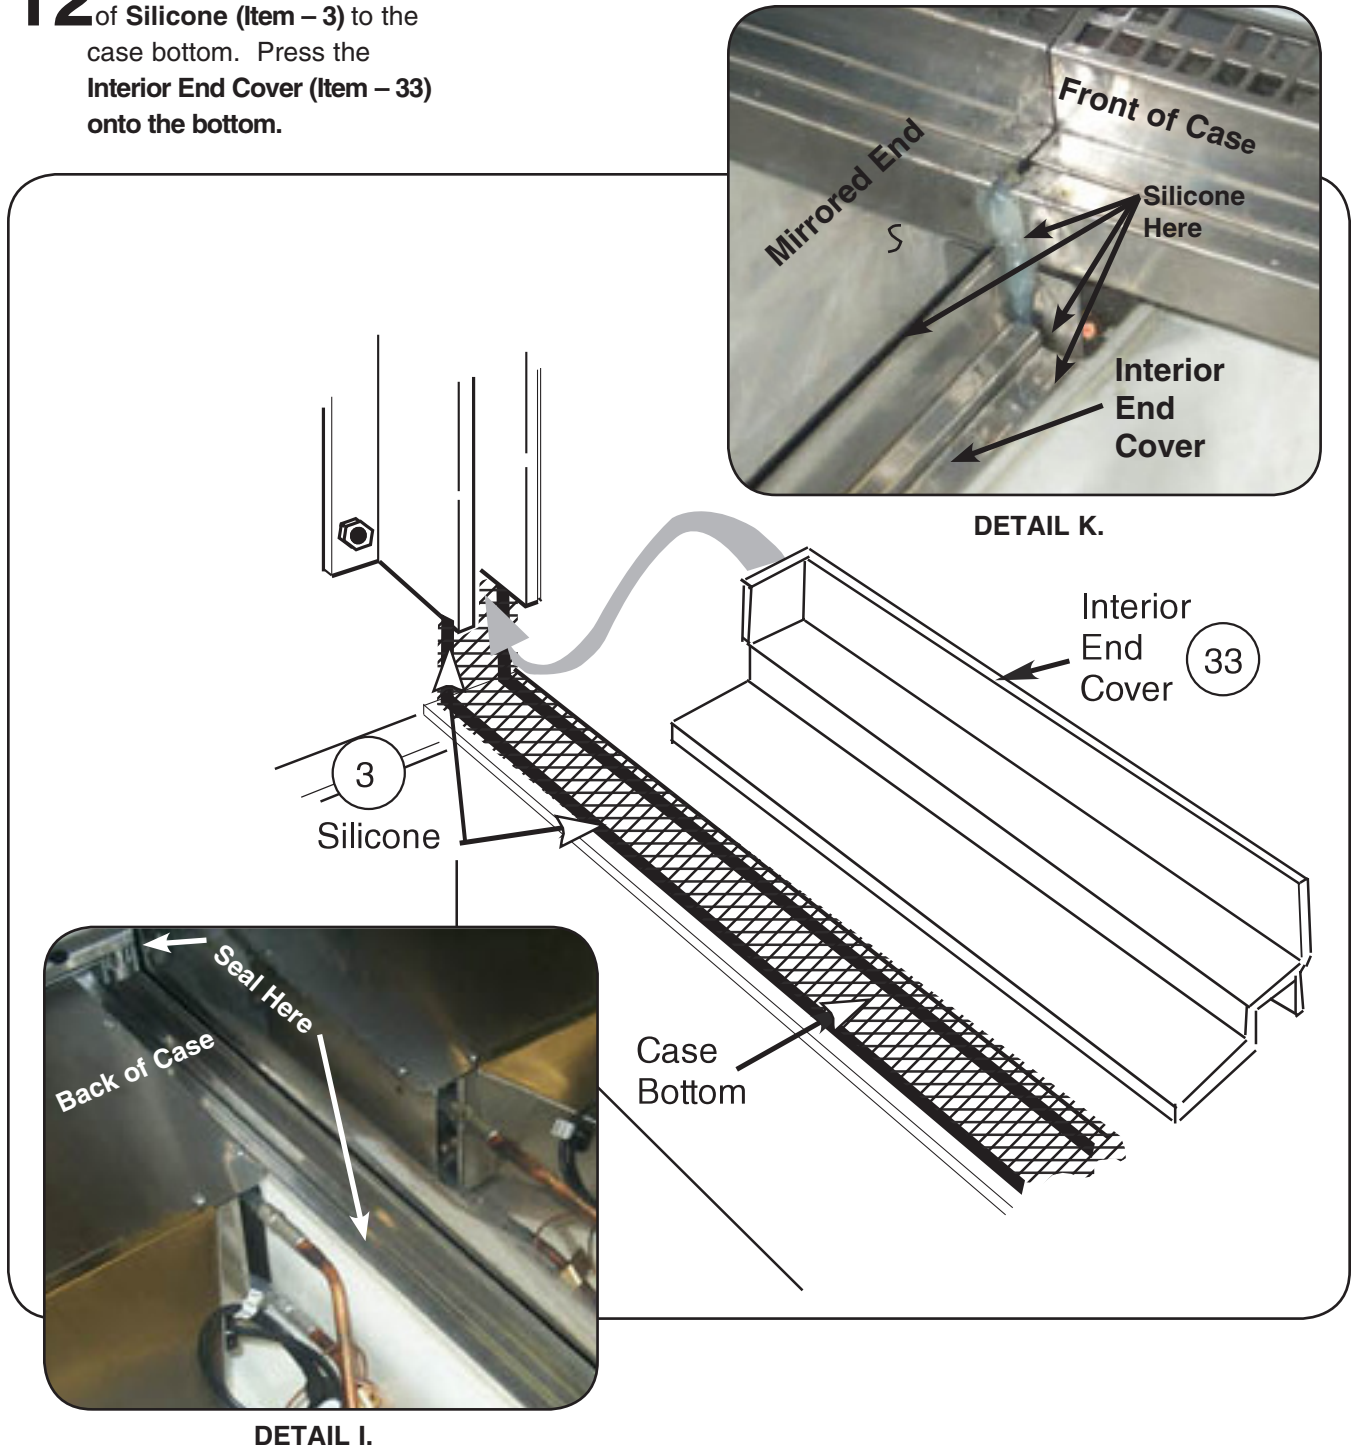

Figure 8. Installing Interior End Cover
See Figure 8, Details K & L.
- 14** Position the **Lower End Panel (Item – 37)**. Lift the panel up and drop into the groove at the top of the splashguard. See Figure 8 and Details, M and N.